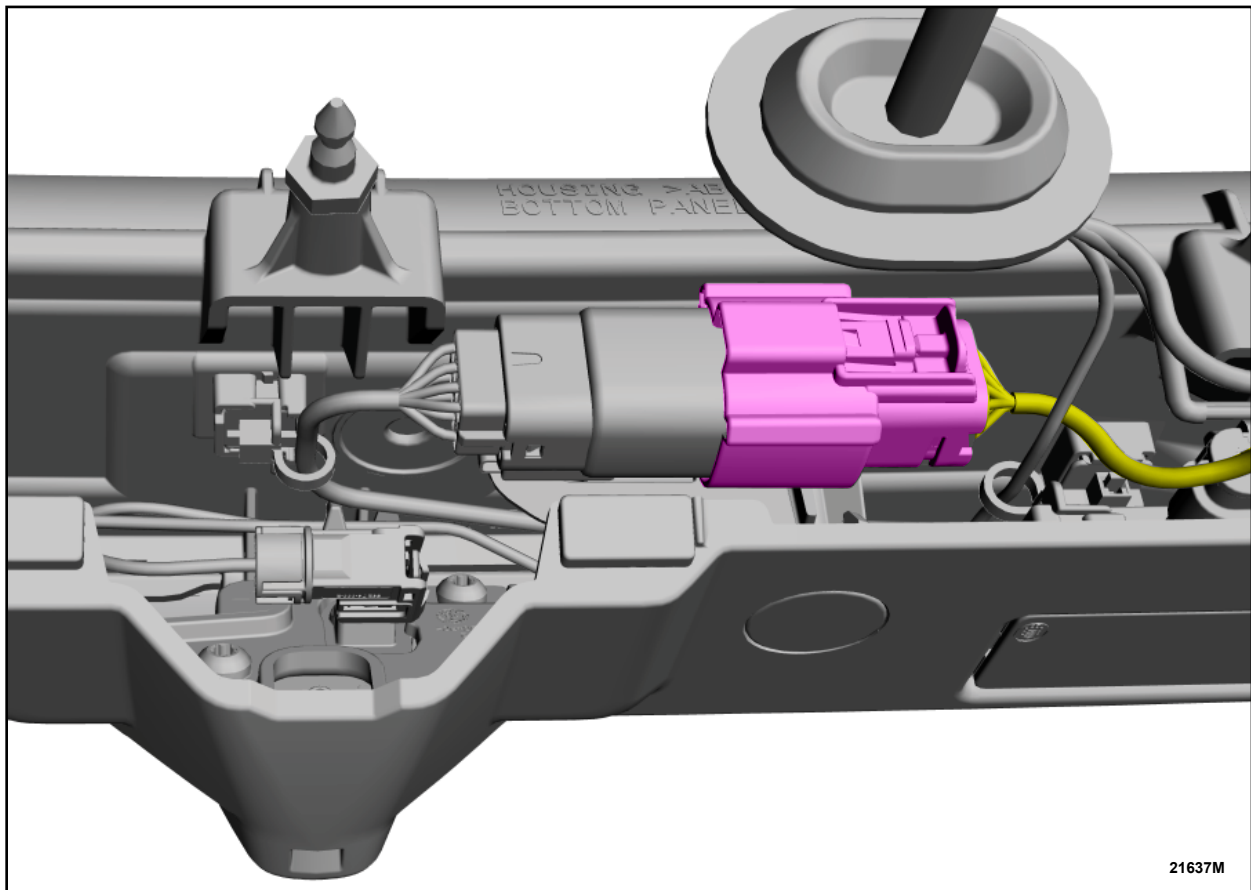

FIGURE 8
2. Disconnect the electrical connector on the back of the lif and position the harness aside. See Figure 8.